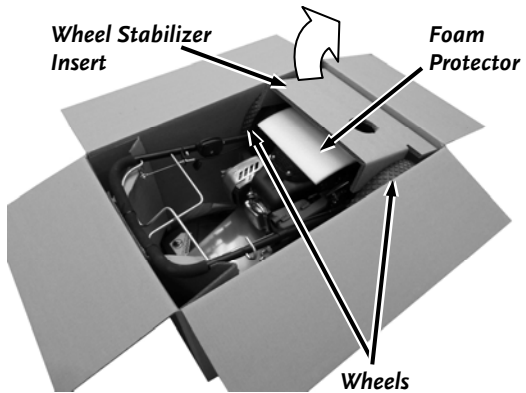

Figure 5
3. Lift up the Wheel Stabilizer Cardboard Insert and remove the Foam Protector (**Figure 5**).